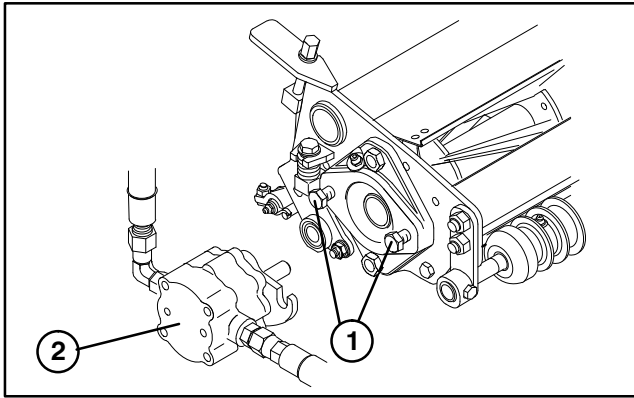

Figure 13
7. Assemble the mounting capscrews for the reel drive motor to each cutting unit. Leave approximately 1/2 in. of threads exposed on each mounting capscrew (Fig. 13).
10. Coat the spline shaft of the motor with clean grease and install the motor by rotating the motor clockwise so the motor flanges clear the studs. Rotate the motor counterclockwise until the flanges are encircling the studs and tighten the mounting capscrews (Fig. 13).